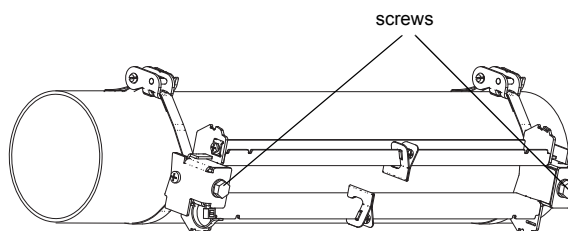

Fig. 7.16: Rail on the pipe
- Put the rail on the tension strap clamps (see Fig. 7.16).